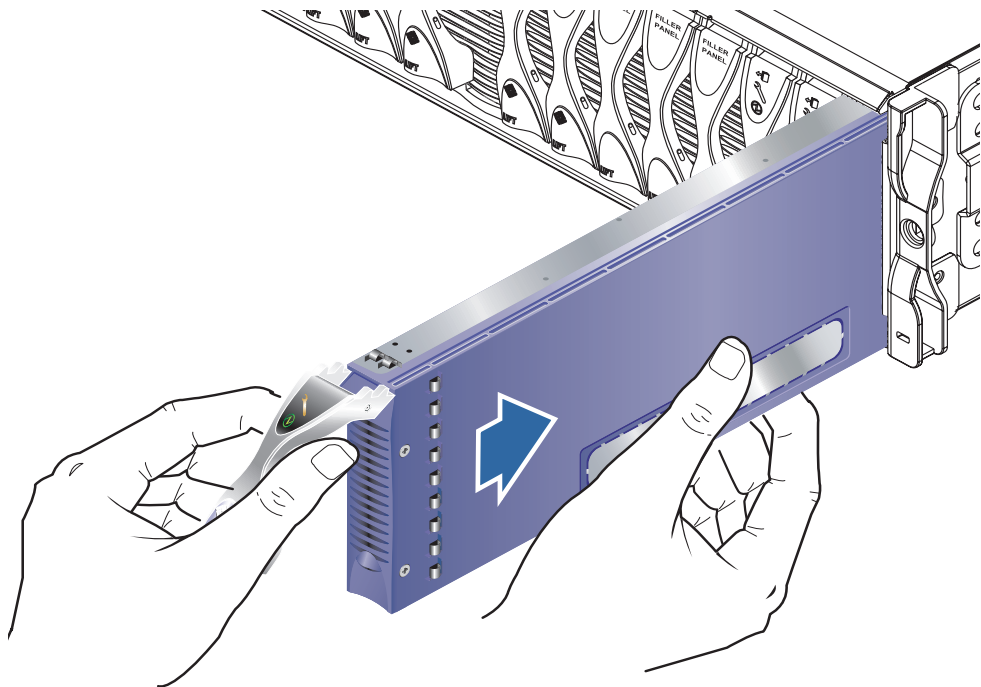

FIGURE 12-6 Aligning and Inserting the Blade
Ensure that the blade connector is facing towards the system chassis, with the hinge point of the lever mechanism at the top. Support the bottom of the blade with your free hand while lifting the blade up to the system chassis (FIGURE 12-6).
3. Insert the blade into the selected system chassis slot (FIGURE 12-6).